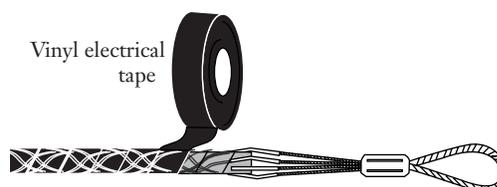

Figure 29
5.19 Starting at least 2.5 cm (1.0 in.) below the mesh on the cable jacket, wrap **vinyl** tape TIGHTLY to the top of the grip. The mesh's imprint should show clearly through the tape (Figure 29).